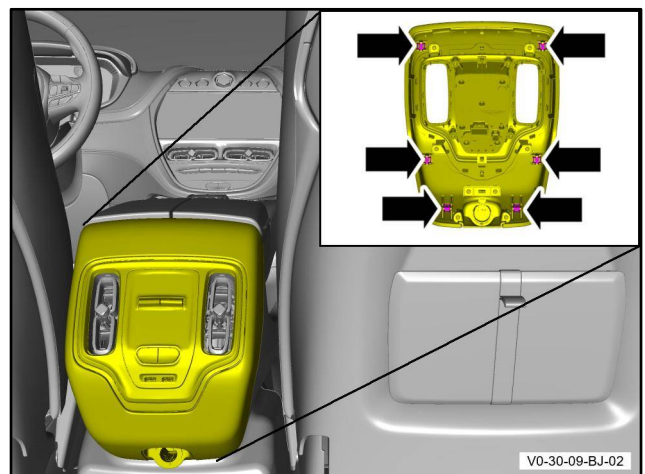

Figure 37
29. Install the centre console end cap cover (refer to Figure 37).